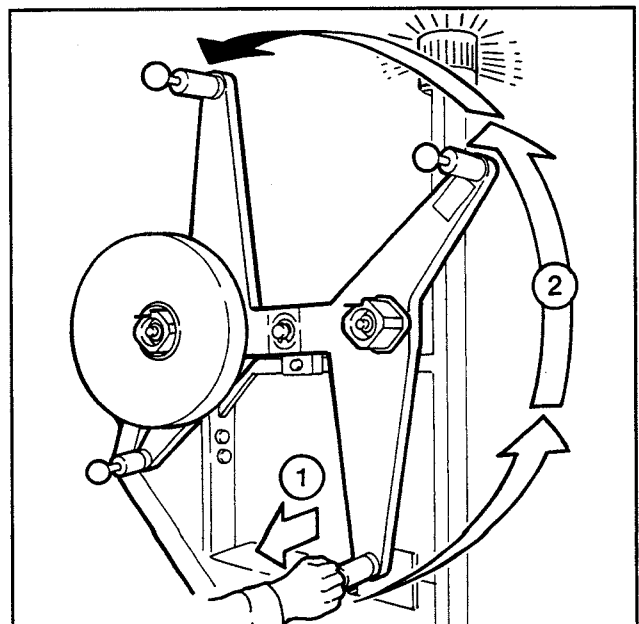

Figure 3-3 – Operation
2. Pull latch knob and rotate turret 180° counter clockwise. Indicator beacon will shut off. See Figure 3-3.